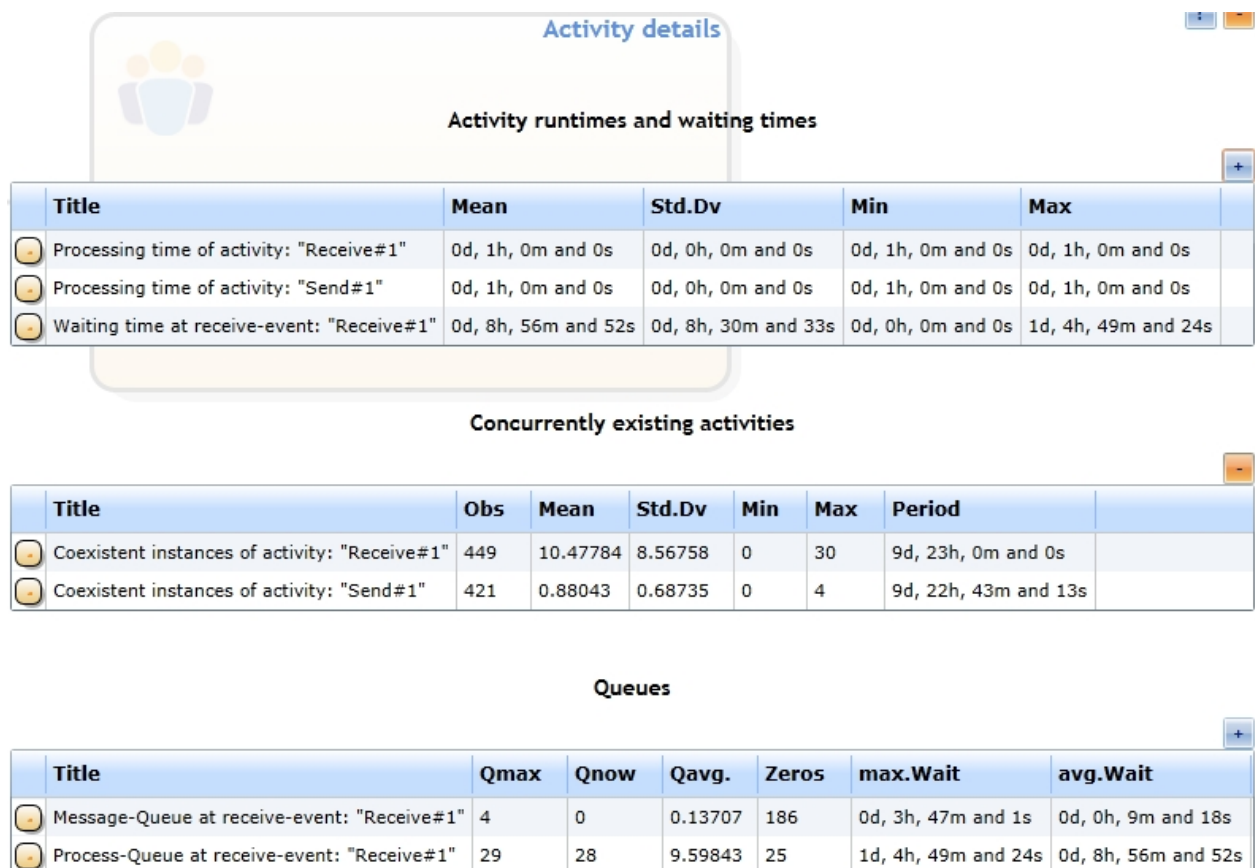

Figure 3: The activity details
- Check out the activities' "Queues" statistics depicted in Figure 3